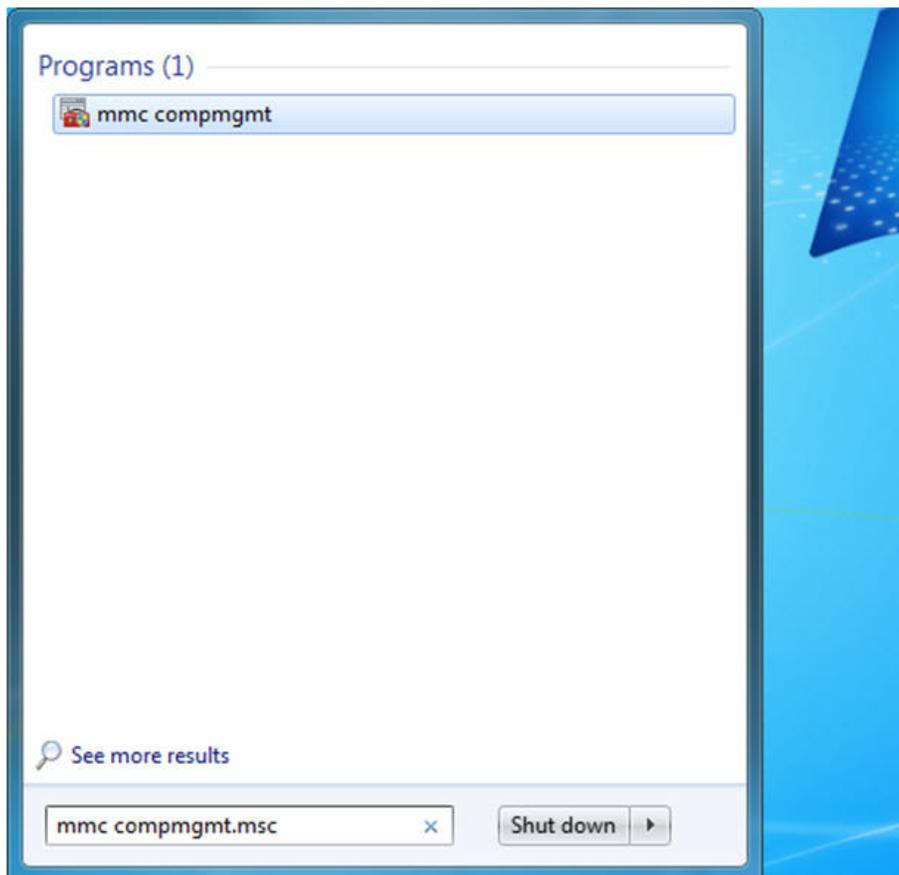

Figure 20. Windows Server 2008, Windows Server 2008 R2, and Windows 7 Search Box
1. Select the Start button. See Figure 20.